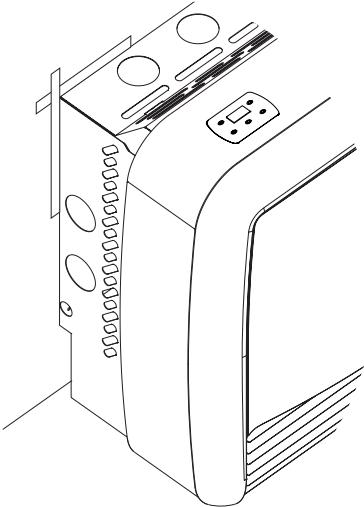

Figure 2
4. Use masking or painter's tape to mark the location of the two top corners of the deep shroud against the wall. **See Figure 2.**